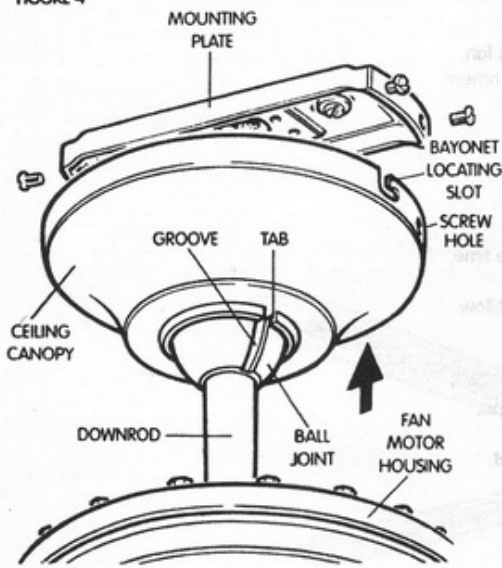

FIGURE 5
1. Attach the fan blades to the blade holder arms. The three smaller screws, washers and nuts supplied should be used to attach each blade to each blade holder (Figure 5).
2. Attach the other end of the blade holder arm to the fan motor housing using two screws and washers supplied for each blade holder arm (Figure 5).